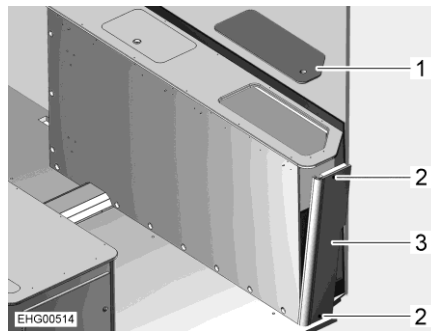

Fig. 136 Bedding box on the right
- Remove the service cover (Fig. 136,1).
- Unscrew 2 screws (Fig. 136,2).
- Reach into the bedding box from above and press the side wall (Fig. 136,3) slightly outwards.